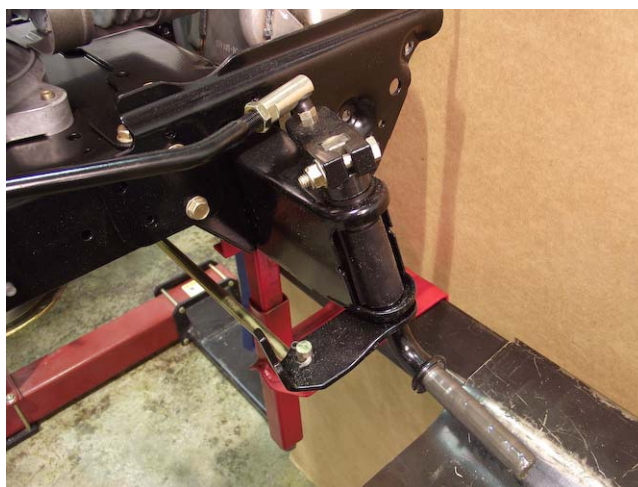

Figure 3.7
4. Remove the cotter pins that secure the tie rod to the axles. Set the tie rod aside. See Figure 3.7.